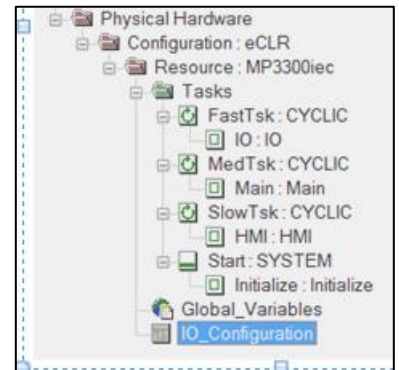

FIGURE 3
12. Take note what are the first input & output address. In Figure 3 it is **%IB53888** for the inputs and **%QB53888** for the output: